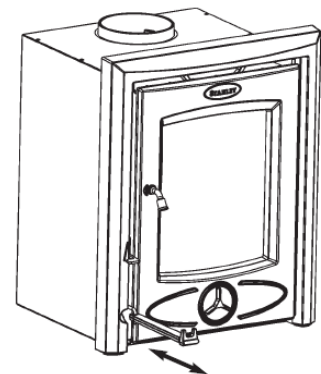

Figure 3
- Anthracite/Coal:** Riddle the fire using the grate operating tool before refuelling. This is done by fitting the operating tool to the grate pull rod and gently pushing it in & out so has to rotate the moveable grate (see Figure 3). Before opening the door, open the spin valve fully and then add fuel as required ensuring not to overfill the fuel higher than the firebars. Close the fire door & reset the spin valve to the desired setting.